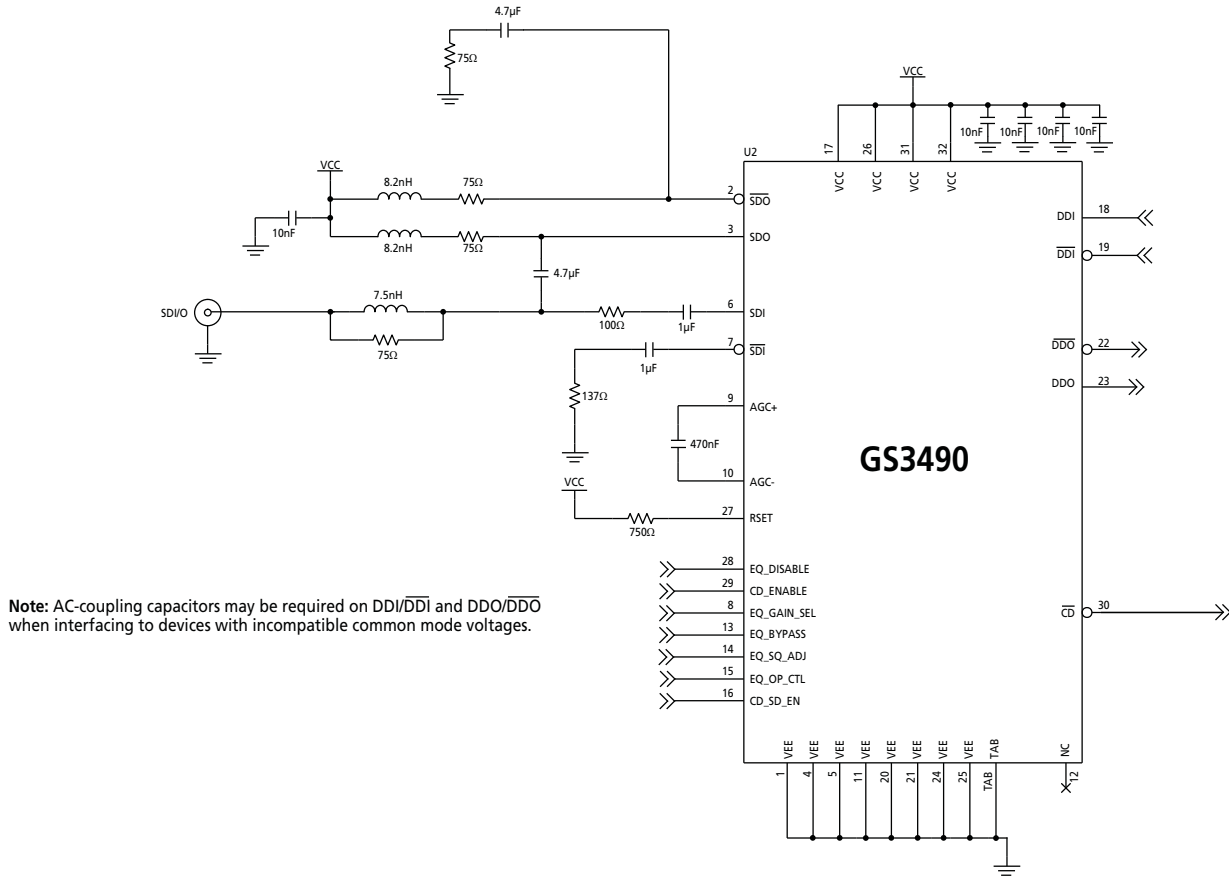

Figure 5-1: GS3490 Typical Application Circuit
**Note 2:** RSET is the resistor connected from pin 27 to VCC (refer to Figure 5-1).